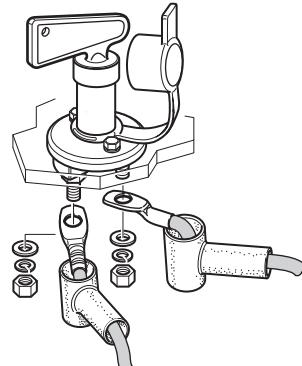

Fig. 50
- Connect the cables to the battery cut-off switch and secure with nuts (Fig. 50).